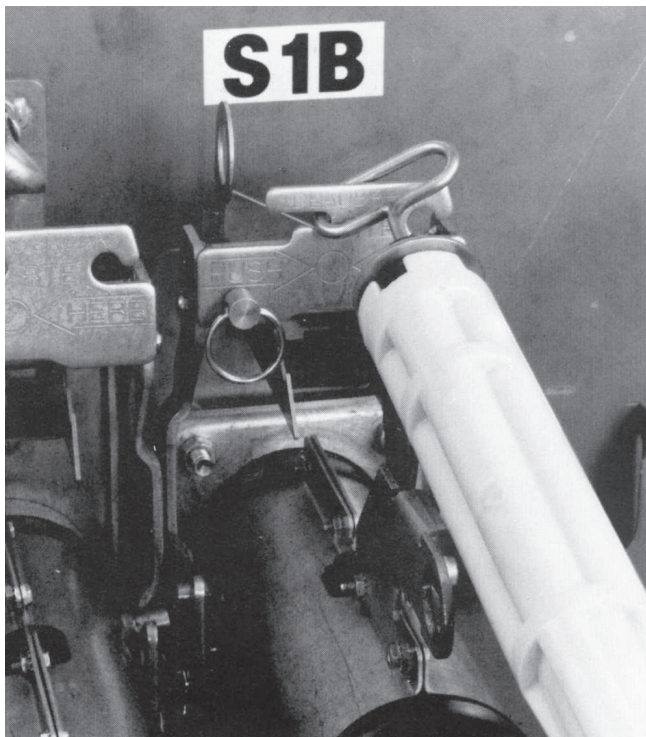

Figure 16. Engage catch strap in push plate slots.
- Engage catch strap in push plate slots with hotstick. Refer to Figure 16.